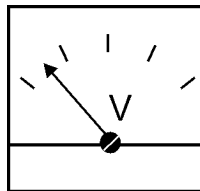
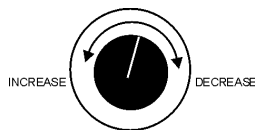

Figure 62. Voltage Meter (AC Volts)
Figure 63. Voltage Adjustment Control Knob
8. The generator's voltage meter (Figure 62) displays the 120VAC in VOLTS. If the voltage is not within the specified frequency tolerance, use the voltage adjustment control knob (Figure 63) to increase or decrease the desired voltage.